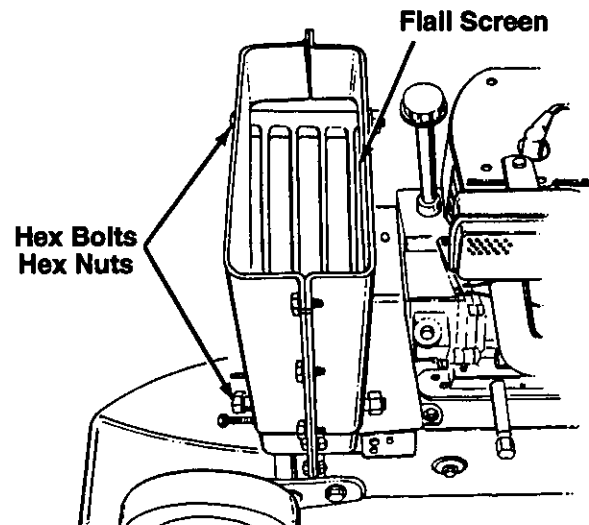

FIGURE 13.
4. Remove the two hex bolts and hex nuts which extend through the housing. Lift the flail screen from inside the housing. See figure 13.
NOTE: Be certain to reassemble the flail screen with the curved side down as shown in figure 13.
1. Remove the plastic belt cover on the front of the engine by removing two self-tapping screws. Refer to figure 13.